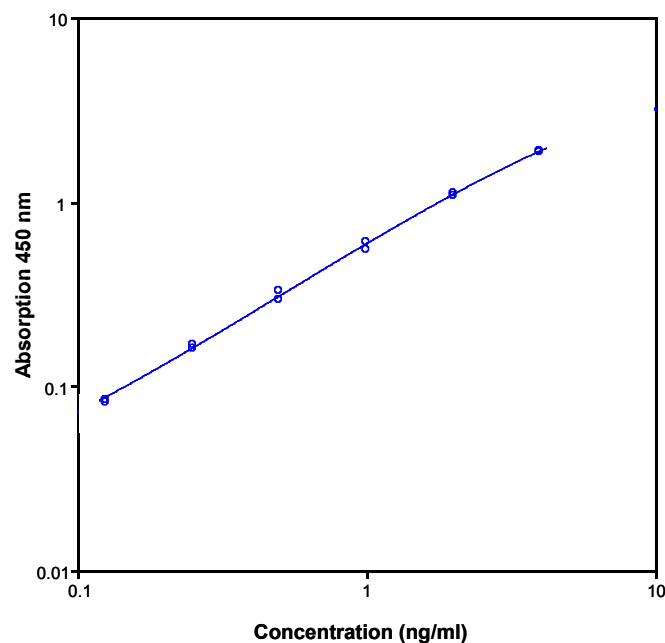

Fig. 7 Representative standard curve for Human sCD44std ELISA Kit . Human sCD44std was diluted in serial 2-fold steps in Sample Diluent.
- A representative standard curve is shown in Figure 7.